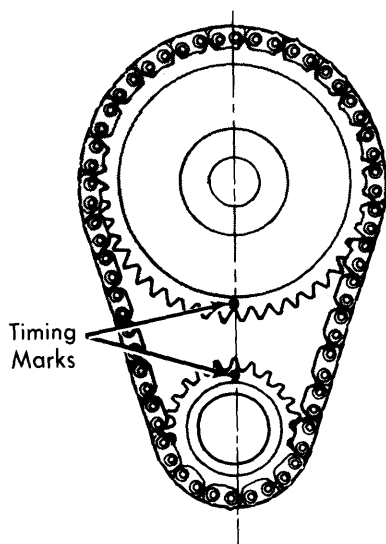

Fig. 12 Timing Chain Sprocket Alignment
Removal & Installation — 1) Crank engine until timing marks are positioned properly (see fig. 12). Remove camshaft sprocket cap screw, washers and fuel pump eccentric. Slide both sprockets and timing chain forward and remove them as an assembly.
2) To install, position timing chain on sprockets with timing marks aligned (see fig. 12). Slide sprockets and timing chain onto engine as an assembly. Install fuel pump eccentric, washers and sprocket cap screw. Tighten bolt and oil timing chain.